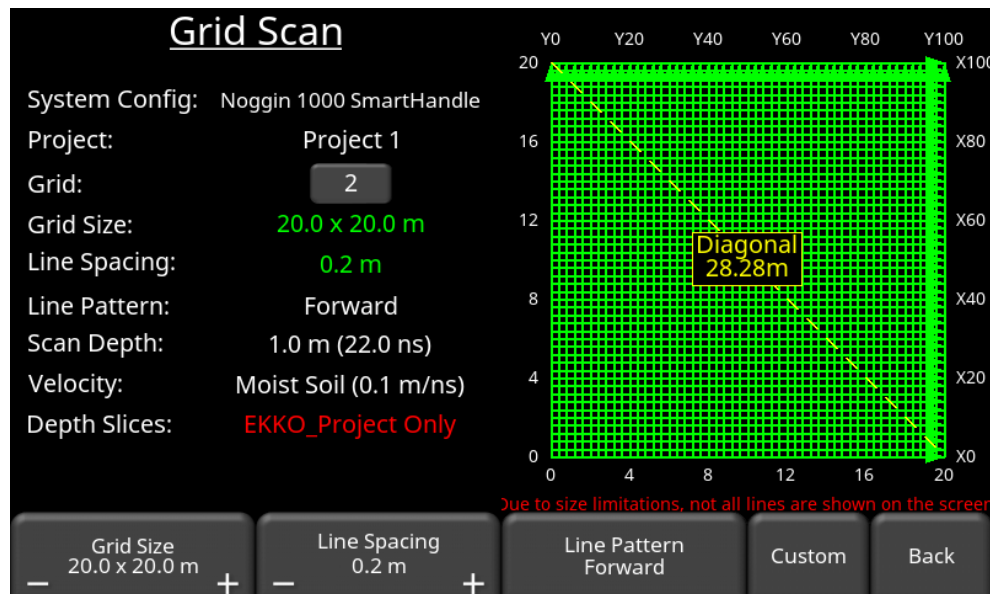

Figure 7-3: Grid settings. This example shows a large area grid where the depth slices will only be processed in EKKO\_Project PC software
Before starting Grid Scan, pressing this button will change the bottom menu, allowing you to set specific parameters for your grid (Figure 7-3). When doing this, keep in mind the size and orientation of objects that you are looking for, as well as the frequency of the sensor you are using.
**Grid Size** – Press the + and - buttons to cycle between pre-set sizes. These are all square grids. If the grid size becomes too large, it cannot be processed on the DVL, and a message in red will say “EKKO\_Project Only”. This means that the grid must be exported from the DVL and opened in the EKKO\_Project software to generate depth slices (Figure 7-3).